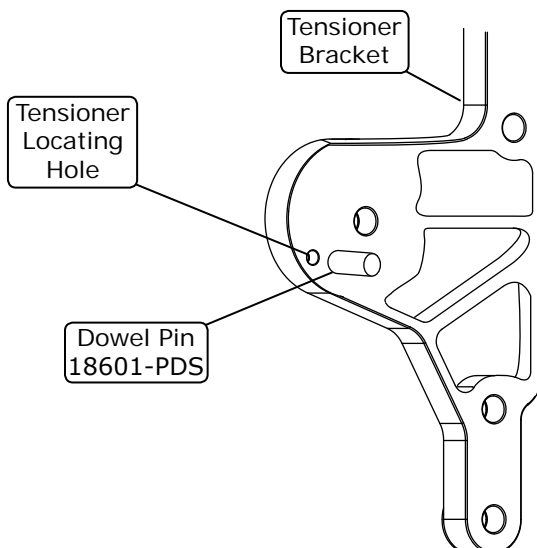

Figure 8
1. Carefully install the dowel pin into the locating hole of the tensioner bracket (See Figure 8, below). **NOTE:** The dowel pin is a press fit. Use a hammer to carefully tap the dowel pin into the locating hole.